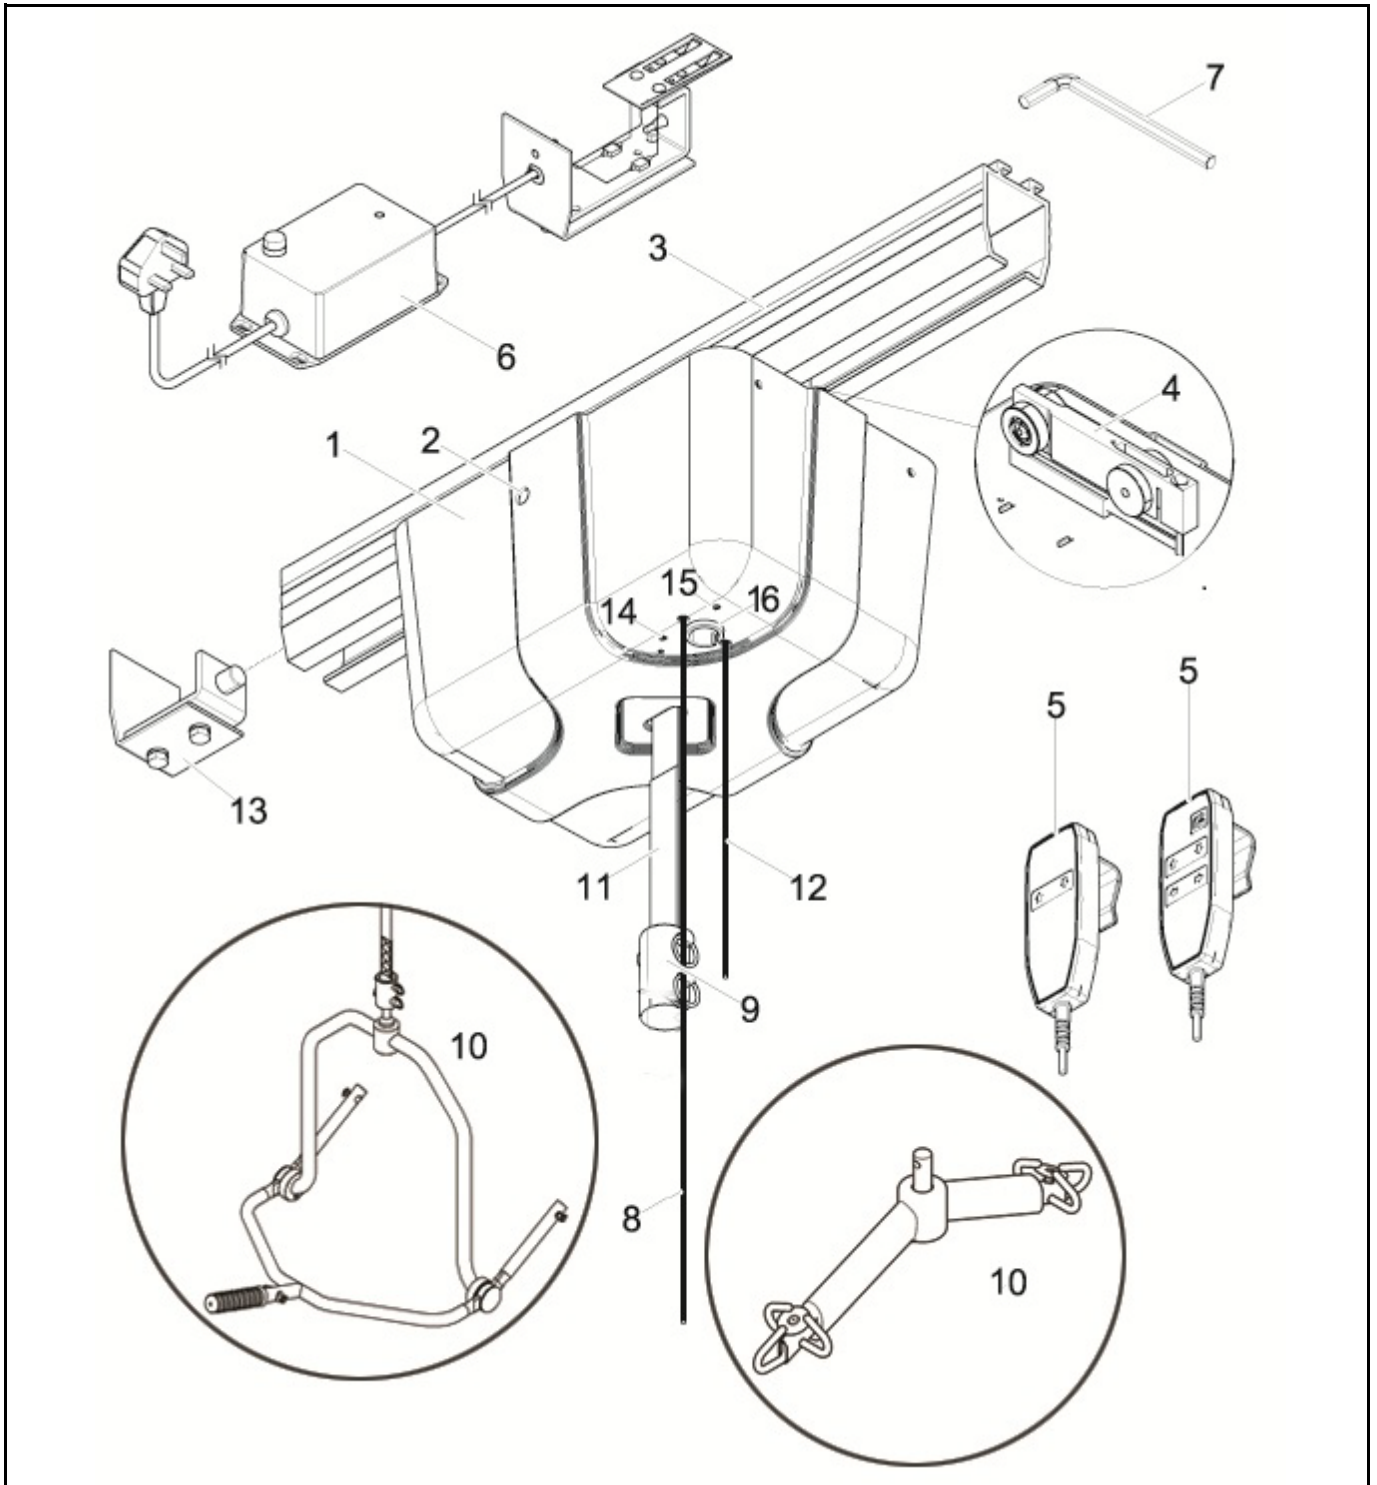

Fig. 2
The following refers to Fig. 2 on previous page:
- 1) Find the rubber cap and label on the side of the lift (see Fig. 2)